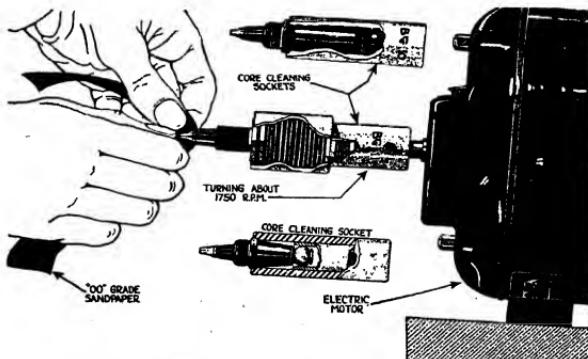

FIG. 8.—Cleaning cores with 00 grade sandpaper.
**Core Cleaning.**—The correct method of cleaning cores is illustrated in Fig. 8. Special collets are used to hold the cores while they are being cleaned. They are designed to be fastened to the shaft of a  $\frac{1}{4}$ -hp. 1,750-r.p.m. motor on a tilted mounting base. The collet holds the core in place without tightening due to the speed of the motor and the fact that the base is tilted. Collet A-10 takes all unfinned shielded plugs. With its